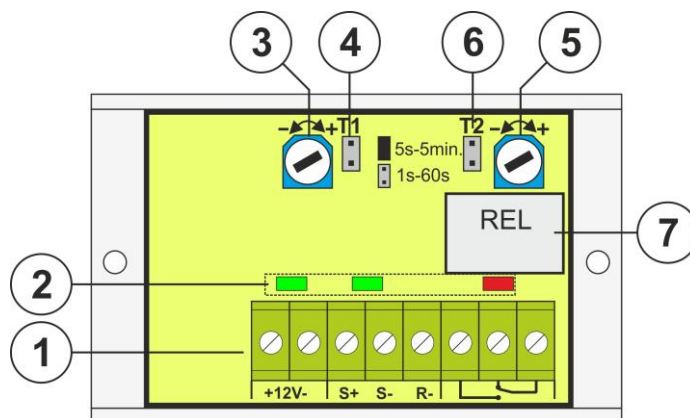

Fig.1. The view of the module.
No. [Fig.1]	Description
①	<p>Connector:  +12V- - The module's power supply, DC voltage  S+ - control input supplied by the positive power supply  S- - control input activated by the negative power supply (power supply minus)  R- - Reset input activated by the ground (power supply minus)</p>  <p>- REL relay connector</p> <p>CAUTION! In Fig.1 the set of contacts shows a potential-free status of the relay.</p>
②	<p>LED (green): – optical indication  green – supply voltage  green – trigger signal indication (S + or S-)  red – The REL relay activation indication – (the LED is on when the relay is activated)</p>
③	<p>Potentiometer for T1 trigger time adjustment</p>
④	<p>Time range jumper T1:   1s – 60s. time range   5s – 5 min. time range                      Description:  jumper on,  jumper on</p>
⑤	<p>Potentiometer for T2 relay activation time adjustment</p>
⑥	<p>Time range jumper T2:   1s – 60s. time range   5s – 5 min. time range                      Description:  jumper on,  jumper on</p>
⑦	<p>Relay</p>